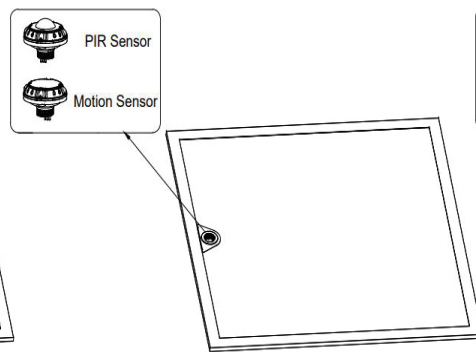
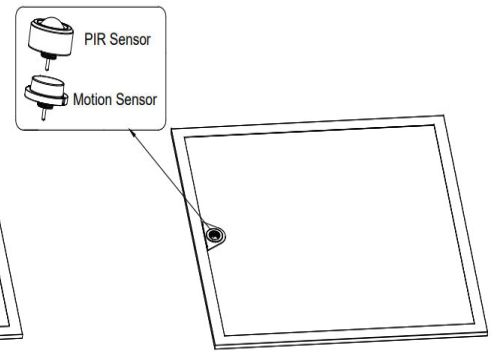

Figure 7
Figure 8
Step 2. Twist-lock the DC sensor to the base to make it work properly, use a remote control to adjust the working mode as per demand. (Figure 7 & Figure 8)